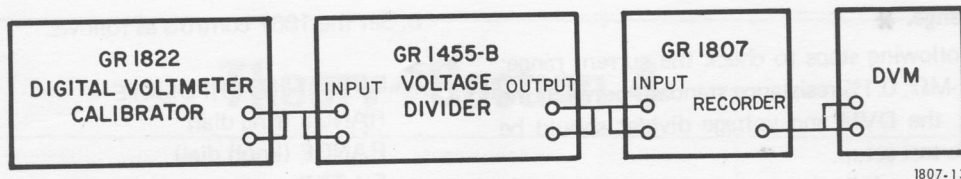

Figure 5-1. Accuracy and recorder test setup.
a. Make the test setup shown in Figure 5-1, using all-copper wires for measurements in the lower ranges. (Refer to Section 3 for interconnection instructions.) Connect the digital voltmeter (DVM) to the RECORDER jack on the rear panel.